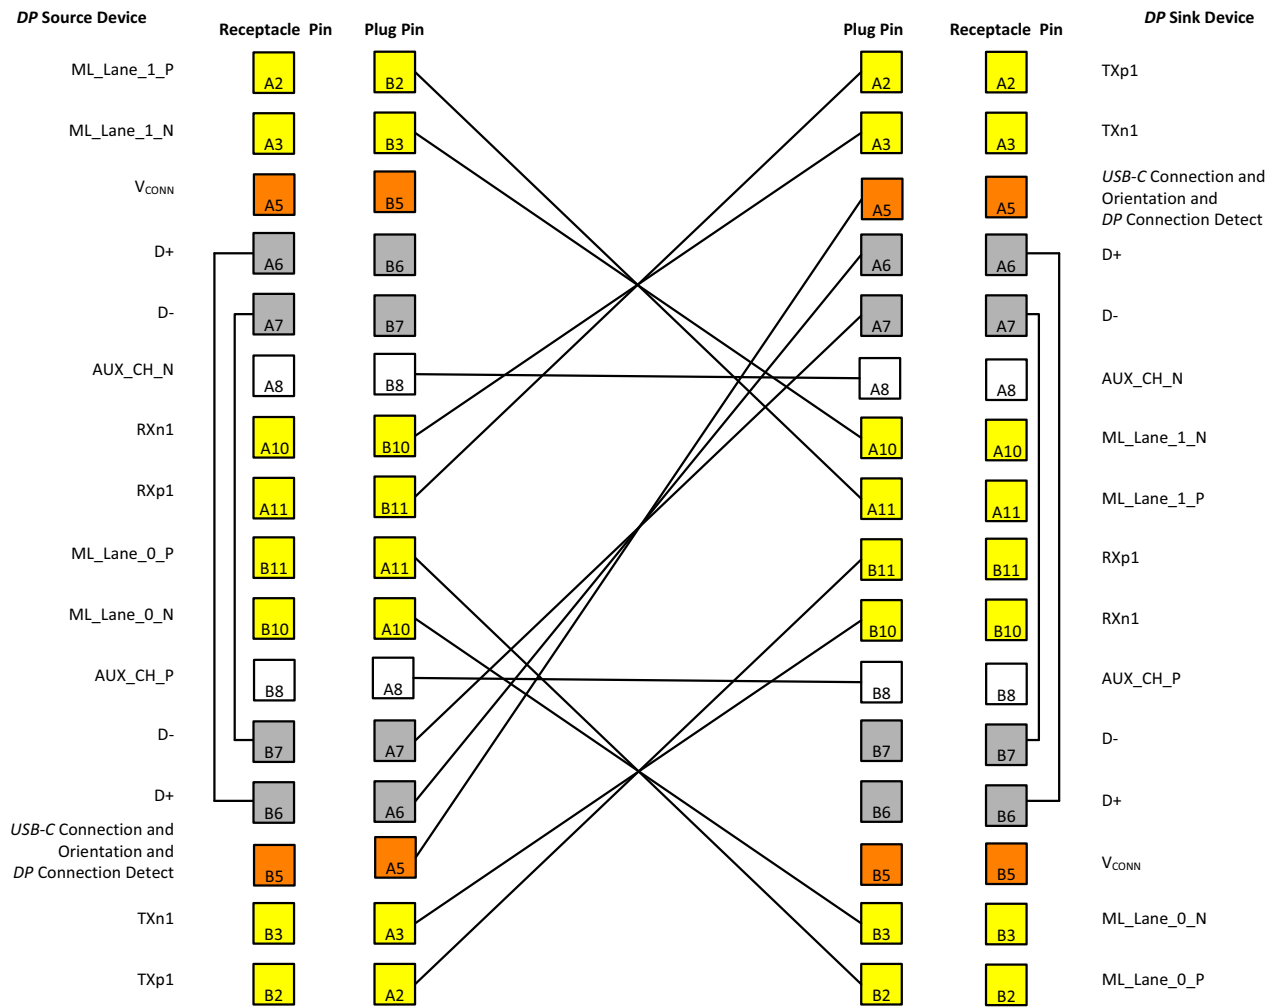

Figure 4-23: Scenario 4a Multi-function Cable Wiring – DP Source Device Flipped Plug Orientation
- Figure 4-23 illustrates when the *DP* Source device plug is flipped and the *DP* Sink device plug is inserted in normal orientation